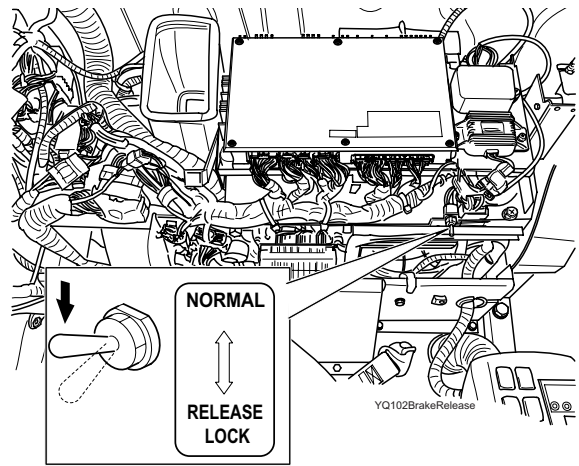

FIGURE 2.24D
3. Locate the switch to release the swing parking brake and flip it to its release position, see Fig. 2.24D.